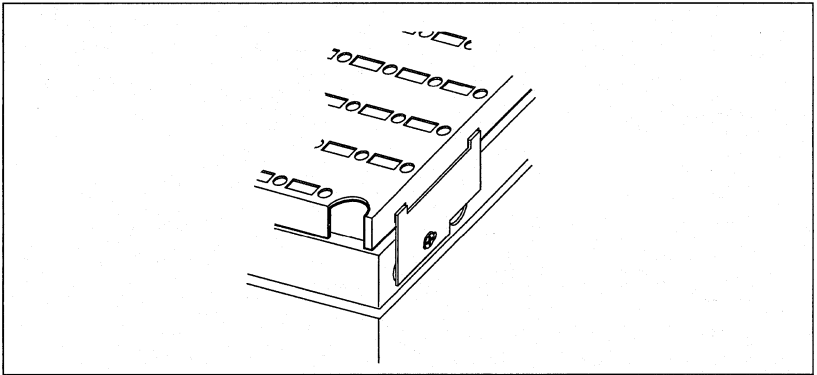

fig. A-19
4. The hooks on the mounting bracket fit into the bracket holes on the retention place (fig. A-19).